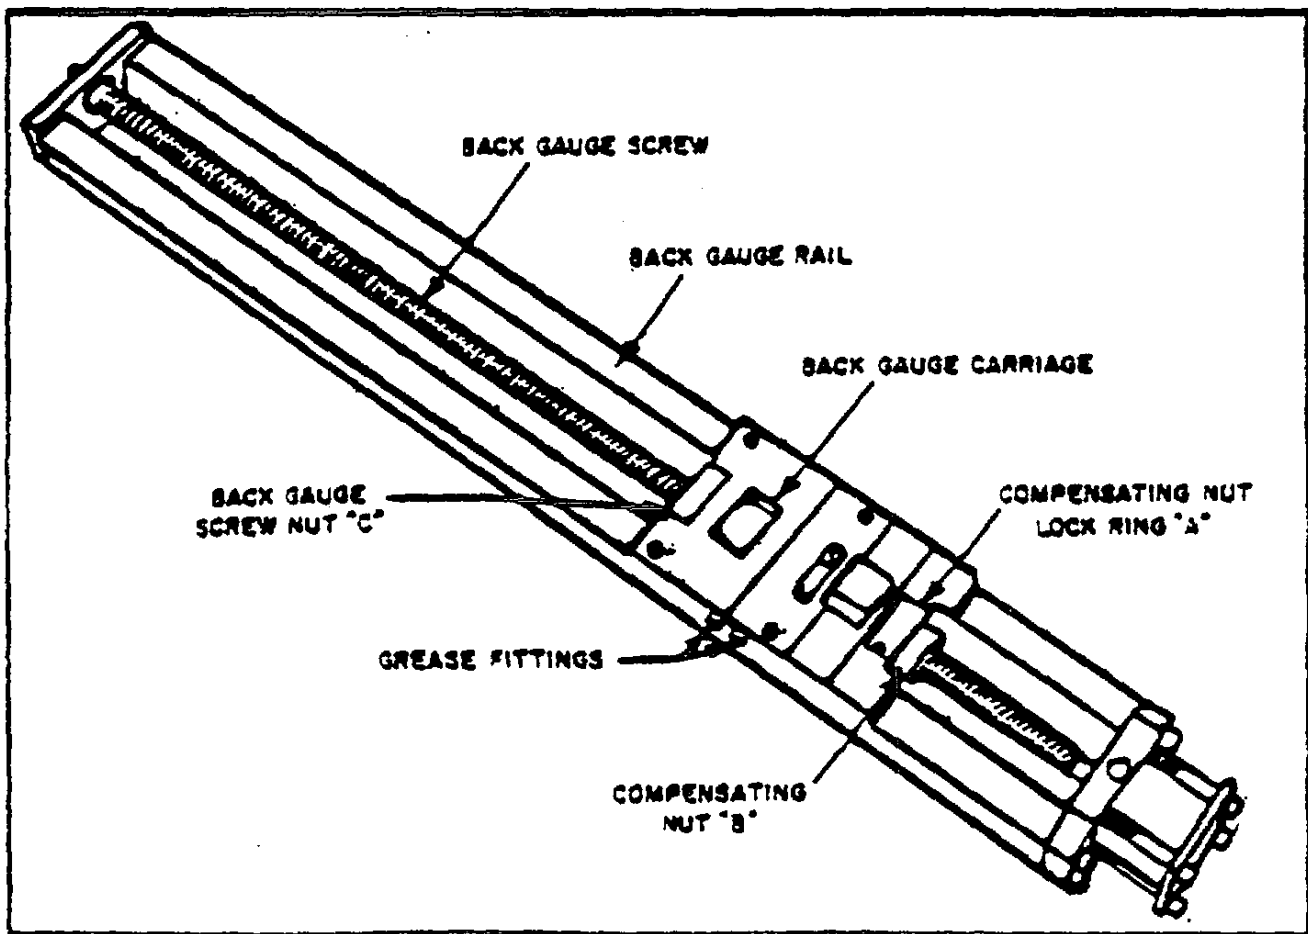

Figure 25. Back Gauge Angle - Backlash Eliminator.
- (1) For the sake of safety, make certain that the main disconnect switch is in the "OFF" position.
- (2) Check the back gauge screw and nut for looseness by trying to move the back gauge angle back and forth by hand. If looseness is evident, remove this looseness before proceeding with the adjustment of the back gauge angle. Refer to Figure 25 and proceed as follows:
- (3) Move the back gauge angle so that a gauge block, 4" for example, can be inserted between one end of the back gauge angle and the lower blade. Now check the spacing at the opposite end of the back gauge angle. If the spacing is not the same at both ends, the back gauge angle is out of parallel with the lower blade and adjustment is necessary.